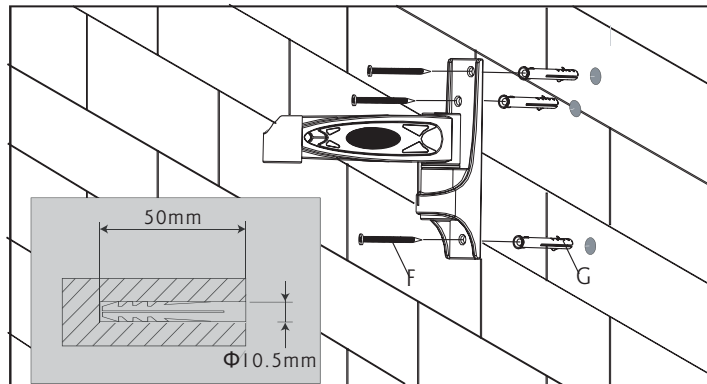

Fig 2
Put the wall mount flatly in the installing position, using it as template, lining out the hole on the wall. Use a augille of dia. 10.5mm to drill three 60mm deep holes. Insert the wall anchor (G) into the mounting holes, and lightly tap them flush to the wall with a hammer. Securely mount the wall plate with supplied Long bolts (F). As shown in Fig2.